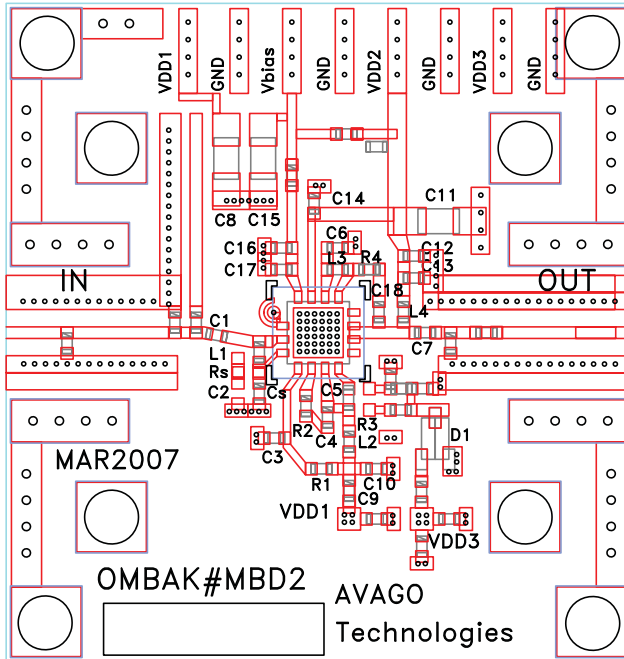
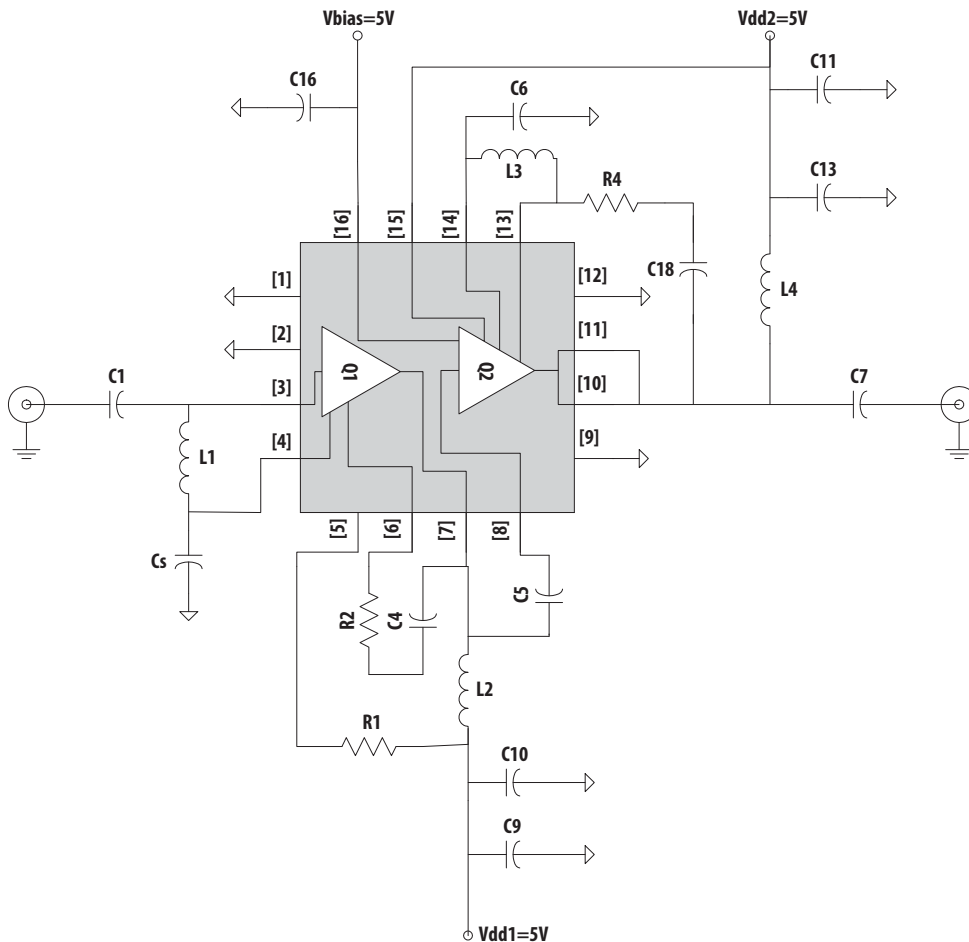
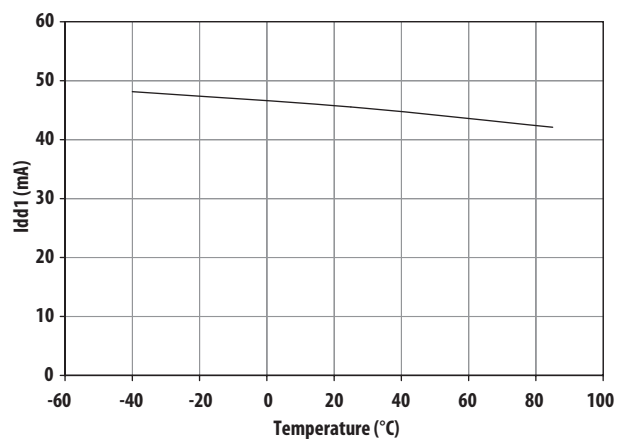
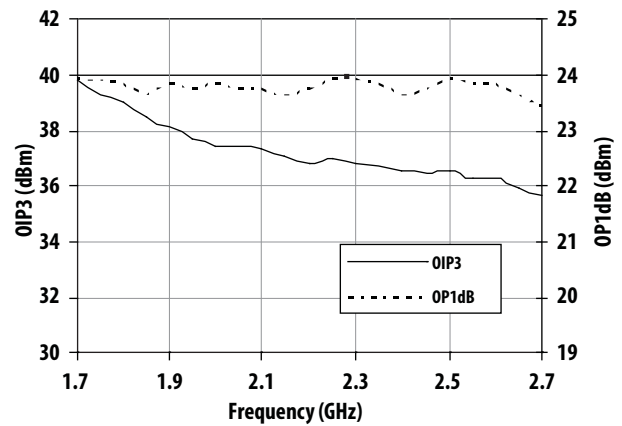

Figure 5. Demo Board Layout
Figure 6. Demo Board Schematic
Figure 7. Idd1 vs. Temperature
Figure 17. OIP3 and OP1dB vs. Frequency
Demo board (shown in Figure 5) component values used for demo board schematic in Figure 6. These component values are used when measuring Electrical Specifications and plots of Figure 7 to Figure 17.
- Measurements obtained using demo board described in Figure 5 with component list in Table 1. Input and Output trace loss is not de-embedded from the measurement.
$T_A = 25^\circ\text{C}$, $V_{dd1}=5\text{V}$, $V_{dd2}=5\text{V}$, $V_{bias}=5\text{V}$ unless stated otherwise. Measured on demo board in Figure 5 with components listed in Table 1.